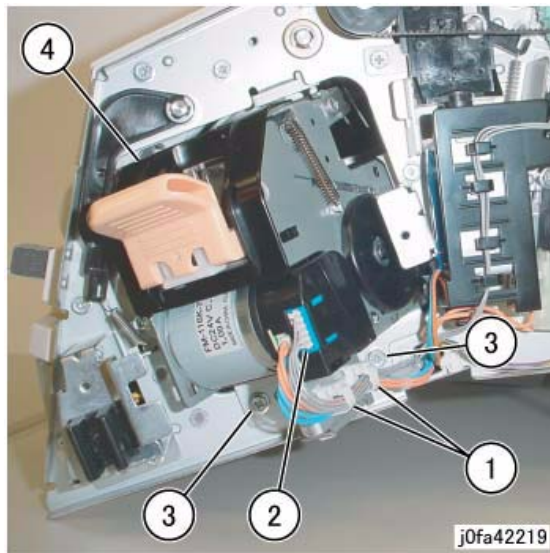

Figure 1 Removing the Staple Assembly
5. Remove the Staple Assembly (Figure 1):